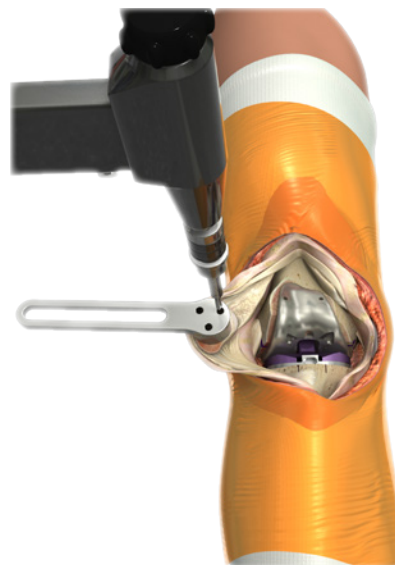

Figure 25c
8. Use the Patella Peg Drill to drill for the three peg holes through the Patella Drill Guide until the drill bottoms out in the guide (Figure 25c).